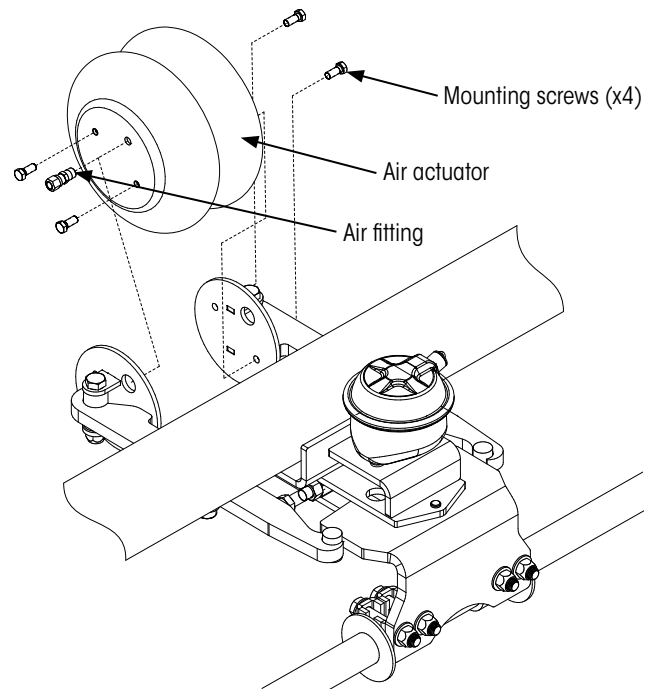

Figure 6: Removing lock-straight air actuator
4. Remove the air actuator (Figure 6) by extracting the air fitting and four mounting screws. **Set aside** for later reassembly.